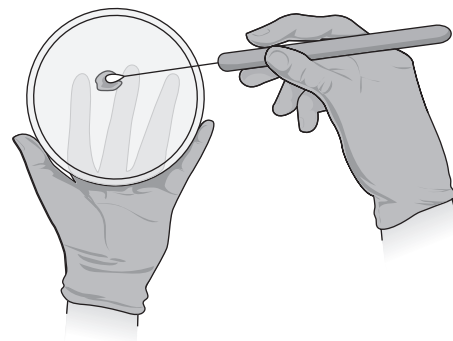

FIG. 16.3. Place urine sample on agar plate using a calibrated loop.
- 2a. Smear plate method for application of urine to a plate: Mix well if allowed to stand more than 30 minutes and use the calibrated loop to place 0.001 ml of urine in the center of the blood agar and MAC/EMB agar plates (Fig. 16.3).